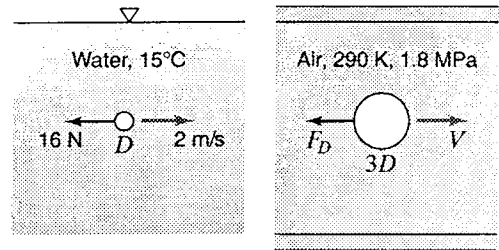

Figure P7.7
7.7 When a submerged sphere moves through 15°C water at 2.0 m/s (Fig. P7.7), the drag force exerted on it is 16 N. In wind tunnel tests with another sphere of three times the diameter the air pressure and temperature are 1.8 MPa abs and 290 K respectively. What must the air velocity be for dynamic similarity, and what will the drag force then be on the larger sphere?